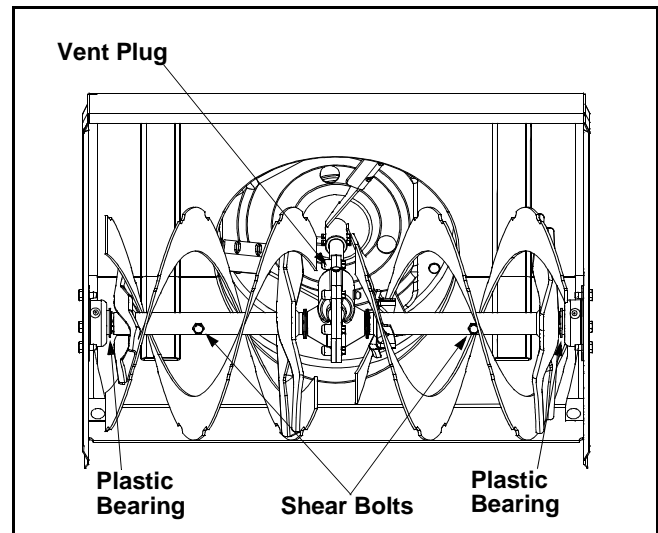

Figure 12
At least once a season, remove the shear bolts on the auger shaft. Spray lubricant inside the shaft. Also lubricate the plastic auger bearings at least once a season and grease the fittings on the end of the auger shaft with a standard grease gun. See Figure 12.
- The augers are secured to the spiral shaft with two shear bolts and hex lock nuts. If you hit a hard foreign object or ice jam, the snow thrower is designed so that the bolts may shear. Refer to Figure 12.